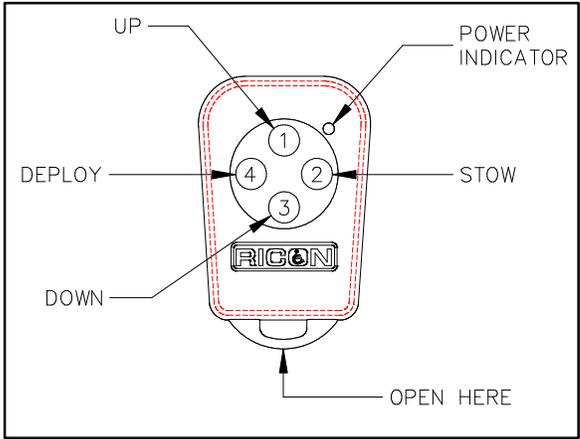

FIGURE 3-1: KEYCHAIN TRANSMITTER
1. Refer to **Figure 3-1**. Remove small screw from back of transmitter housing. Insert small, flat bladed screwdriver, or similar object, between housing halves at location shown. Twist screwdriver to pop halves apart.